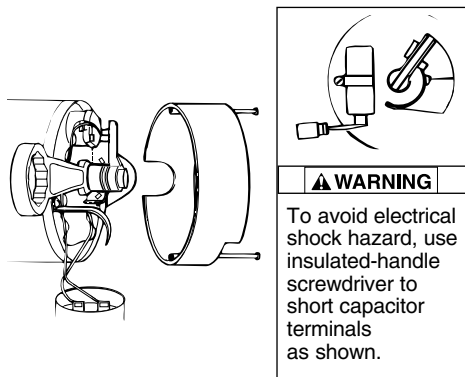

Figure 15: Hold Shaft
2. If impeller must be replaced, loosen two machine screws and remove motor canopy (see Figure 15).
3. **▲ WARNING** Capacitor voltage may be hazardous. To discharge capacitor, hold insulated handle screwdriver **BY THE HANDLE** and short capacitor terminals together (see Figure 15). Do not touch metal screwdriver blade or capacitor terminals. If in doubt, consult a qualified electrician.